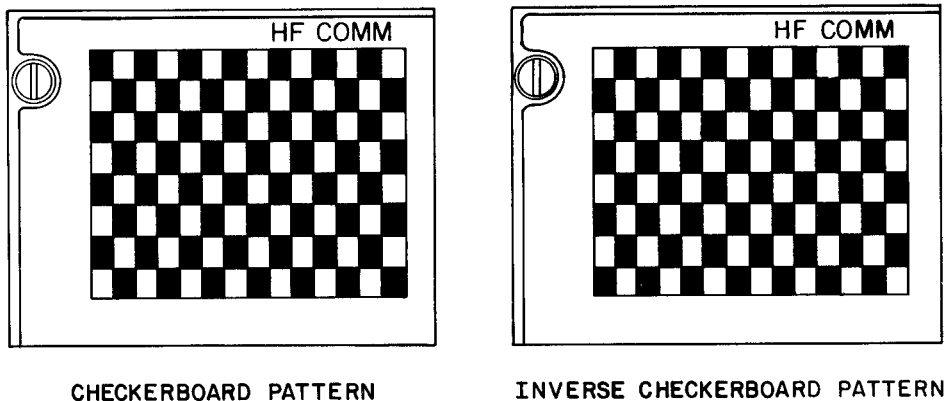

Figure 2-15. CRT Display of BIT Test Checkerboard Patterns
j. **Test Mode/Display.** Refer to figure 2-15. Test mode/display is used for running the BIT sequence. Operation procedures for the modes are given in the following information.